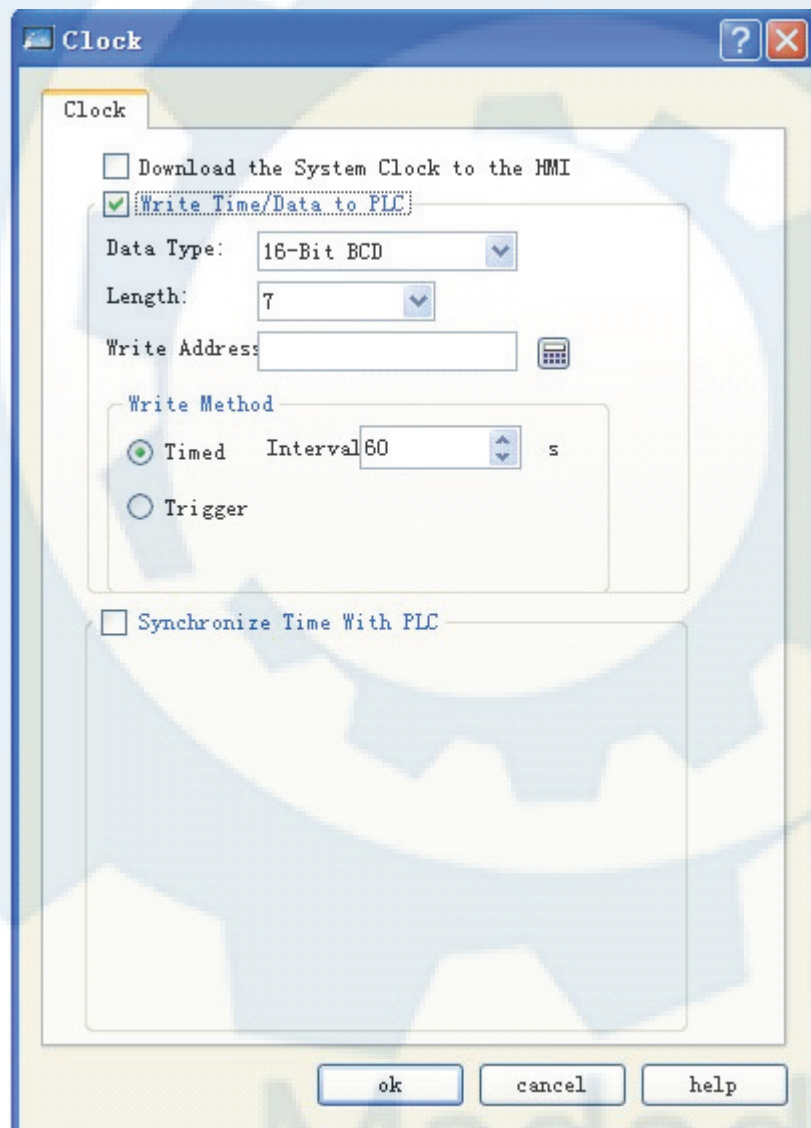

Figure 7-9 Dialog box of clock setting
- ◆ Double click the option “Clock” in “Project Manager” to pop up a dialog box as shown in figure 7-9.